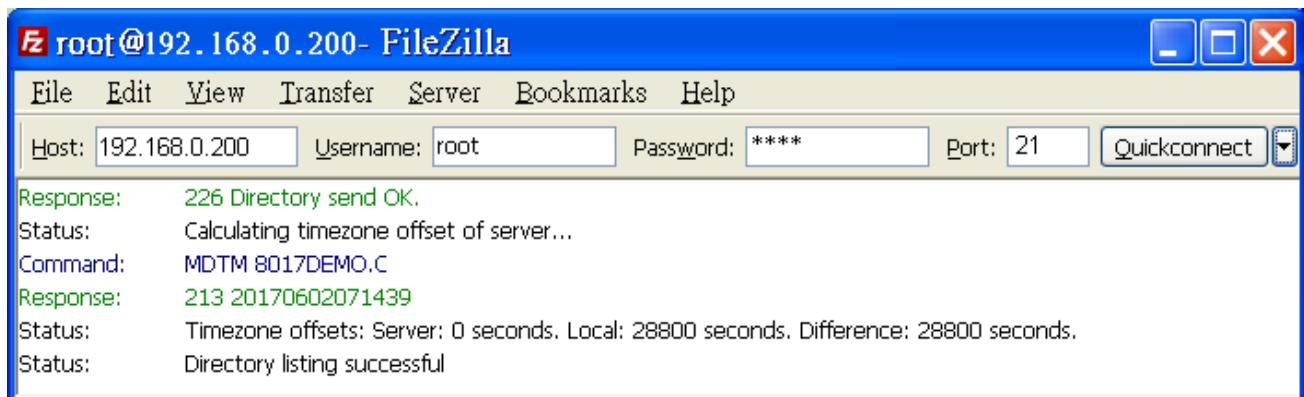

Fig. 3-29
- (1) Open the FTP Software and add an FTP Host to the LP-52xx (for example, FileZilla - The free FTP solution for both client and server, <https://filezilla-project.org/>).
- (2) Type the User_Name (default value is “root”) and Password (default value is “**icpdas**”). Then click the “**Quickconnect** Connect” button to establish a connection to the ftp server on the LP-52xx (refer to Fig. 3-29).